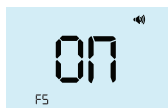

Fig. 14
Press the **SET** button five (5) times. F5 will display on the screen. Press the left arrow or right arrow to turn the backlight **ON** or **OFF**. To save the setting, press the **SET** button until the **HOME SCREEN** is displayed. (Figure 14)